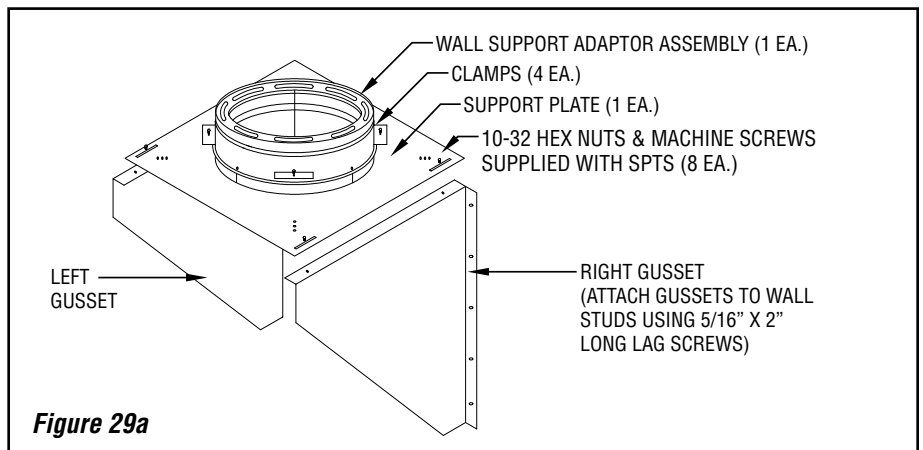

Figure 29a
7. Attach wall support plate to wall support adaptor using 4 clamps provided. Do not tighten. (See **Figure 29a**).
9. Install the tee cap to the bottom of the wall support adaptor with a minimum of two (2) #10 x 1/2" sheet metal screws.